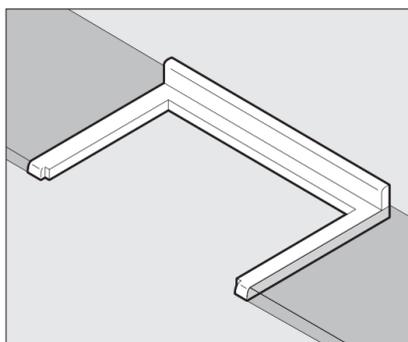

FIGURE 2. Your countertop cutout should look like the above image.
- + Tape the countertop surface before cutting to prevent chipping and scratching then cut out the countertop. Your countertop should now look like Fig. 2.